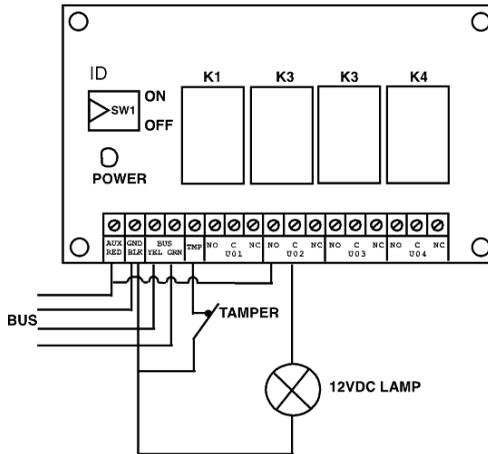

Figure 3-4: Utility Output Module UO4 (Showing an Example of UO4 Wiring)
- a. UO4 – Relays (see Figure 2-8 and Figure 3-4)
8. Connect the devices to the outputs terminals (12VDC @ 1A max Dry Contact Relays). See Figure 2-8 and Figure 3-4